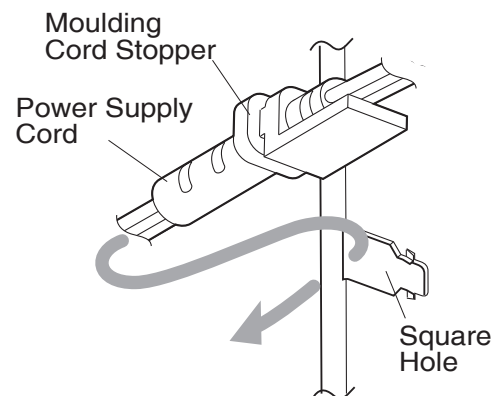

Figure C-3(a) Power Supply Cord Replacement
4. Remove the single (1) screw holding the green wire to the base cabinet.
5. Disconnect the leads of the power supply cord from the noise filter, referring to the Figure C-3(a).
6. Release the moulding cord stopper of the power supply cord from the square hole of the rear cabinet, referring to the Figure C-3(b).
1. Insert the moulding cord stopper of power supply cord into the square hole of the rear cabinet, referring to the Figure C-3 (b).
2. Install the earth wire lead of power supply cord to the base cabinet with one (1) screw and tight the screw.